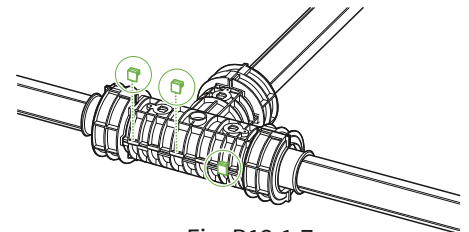

Fig. B12.1.7
6. Secure side-locking clips around the perimeter of the Insulation Sleeve (Fig. B12.1.7).